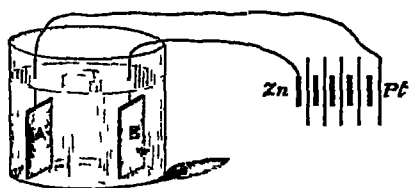

FIG 219
*electrolyte*. The current flows from the zinc to the platinum or copper in the battery, by the wire to A (fig 219) through the liquid, and so on to the zinc. The solid conductor A, from which the current
**Electrolysis of metallic salts in solution—*Sulphate of copper*** Dip two platinum electrodes, A B (fig 219), of a battery into a solution of copper sulphate. The negative electrode is soon covered with red copper, while a gas, found to be oxygen, rises from the positive electrode.